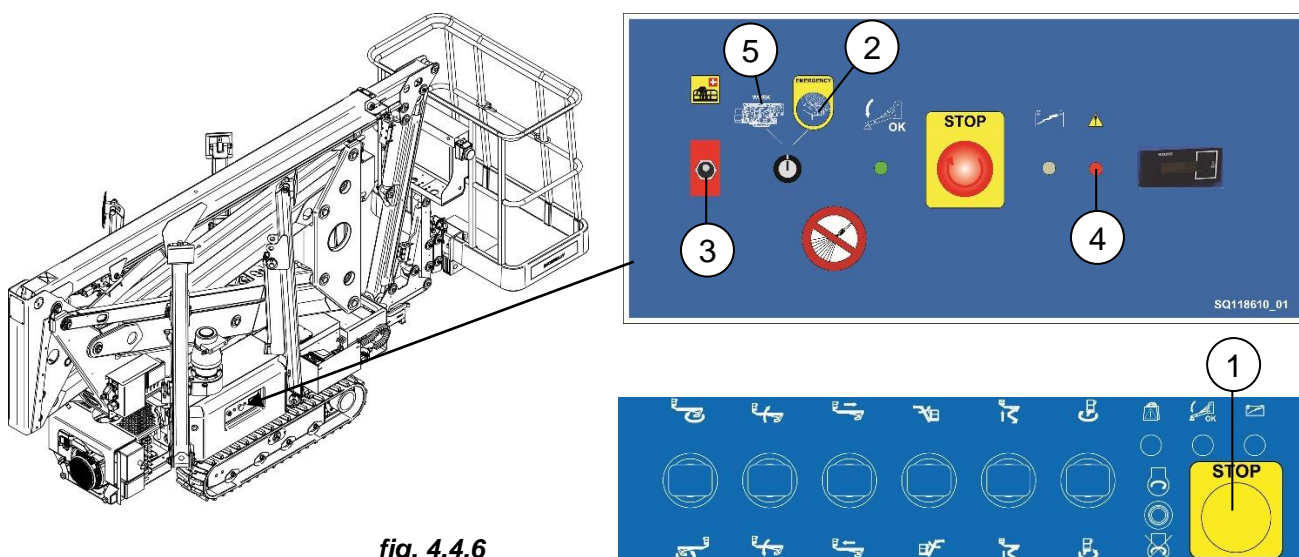

fig. 4.4.6
If the work platform has been stopped by pressing the emergency button (*pos. 1 fig. 4.4.6*) or load limiter block, it is possible to by-pass the emergency condition for a set time by pressing the emergency mushroom button on the fixed push-button panel on the work platform or by exceeding the load allowed on the work platform. The recovery procedure is as follows:
1. Move to the left side of the platform and position yourself in front of the emergency ground panel (*fig. 4.4.6*)
3. Rotate the selector switch to the "Emergency controls" position (*pos. 2 fig. 4.4.6*)
4. Press and release the bypass switch (*pos. 3 fig. 4.4.6*)
- The emergency button on the work platform (*pos. 1 fig.4.4.6*) is disabled for a short time;
- The led (*pos. 4 fig. 4.4.6*) flashes quickly, while the by-pass is enabled (see diagnostics)
6. After performing the recovery operations, turn the selector switch to the "Work Platform Controls" position (*pos. 5 fig. 4.4.6*)
| <p>!</p> | <p>NOTE:</p> <p>If the bypass time ends, before completing the recovery procedure (the flashing light switches off and the engine also switches off), reactivate the bypass by enabling the bypass switch again (pos. 3 fig. 4.4.6)</p> |
| <p>!</p> | <p>NOTE:</p> <p>The bypass button (pos. 3 fig. 4.4.6) must only be used when truly needed; if it is used in a status other than the emergency stop on the work platform, an overload situation, or with the selector in (pos. 5 fig. 4.4.6), an alarm is triggered.</p> |